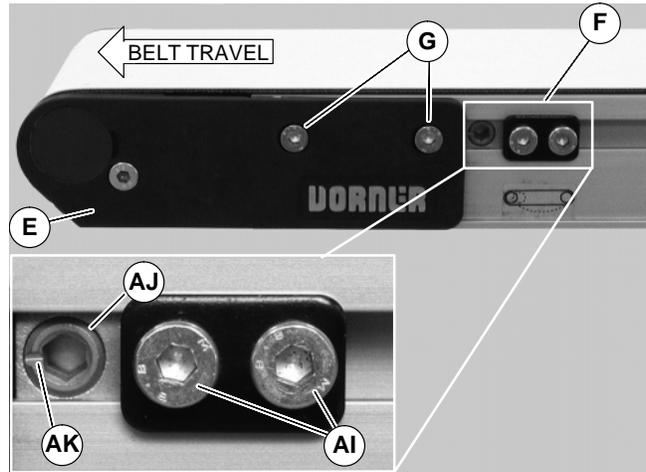

Figure 32
Non V-guided belt conveyors are equipped with belt tracking cam assemblies (F of Figure 32) for belt tracking adjustment.
1. Ensure head plate fastening screws (G of Figure 32) on both sides of conveyor are tightened.
2. On both sides of conveyor, loosen two (2) cam fastening screws (AI). Adjust cams (AJ) until indicator slots (AK) are horizontal and facing end of conveyor. Then slide cam assemblies against head plates (E) and re-tighten cam fastening screws (AI) to 60 in-lb (7 Nm).
3. On the side toward which the belt is tracking, loosen head plate fastening screws (G).
4. With the conveyor running, use a 5 mm hex-key wrench to rotate the tracking cam (AJ) in small increments until the belt tracks in the center of the conveyor. Then while holding the cam in position, re-tighten the head plate fastening screws (G) with a 4 mm hex-key wrench to 60 in-lb (7 Nm).